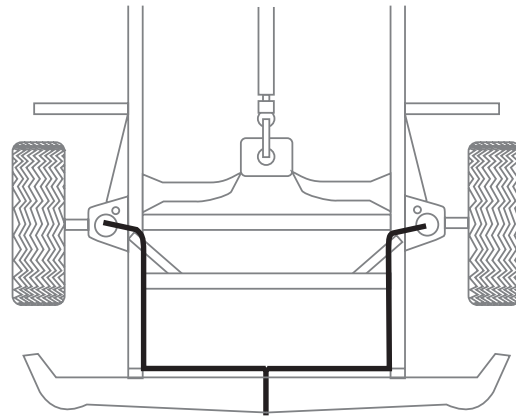

fig. 6
8. Push the remaining air line over the last fitting on tee and route along frame to desired inflation valve location (Figure 6). Attach with zip ties.